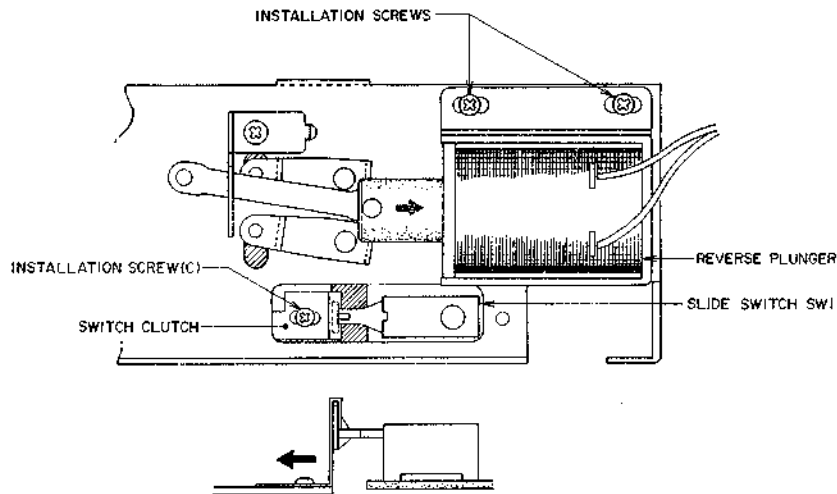

Fig. 8
#### Adjustment (Refer to Figs. 8, 9)
### 3. Slide Switch Operating Position Adjustment (Refer to Figs. 8, 10)
- a) Put into reverse mode. Loosen installation screw(c) in Fig. 8 and move the switch clutch in the direction of the arrows and having pulled the slide switch SW1 out to its fullest extent, tighten installation screw(c).